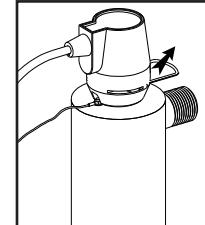
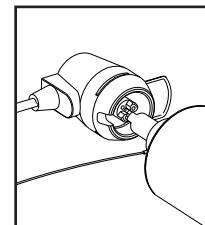
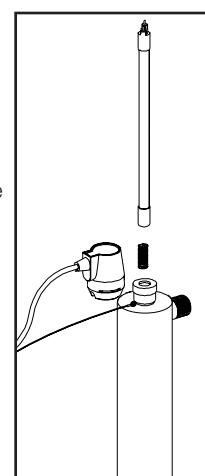
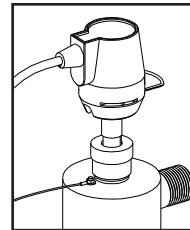

FIGURE 2A
FIGURE 2B
FIGURE 2C
FIGURE 2D
-  2. Disconnect main power source and allow the unit to power down for 30 sec. Remove the lamp connector by sliding the metal retaining ring (Figure 2A) away from the body of the connector. Remove connector and lamp from the reactor chamber. Separate the lamp from the connector (Figure 2B). Do not twist the lamp from the connector, simply slide the two apart. Avoid touching the lamp on the glass portion. Handling the lamp at the ceramic ends is acceptable, however if you must touch the lamp glass, please use gloves or a soft cloth. Fully remove the lamp from the reactor chamber being careful not to angle the lamp as it is removed from the chamber. If the lamp is removed on an angle, pressure will be applied on the inside of the quartz sleeve, causing the sleeve to fracture.
-  3. To install a new lamp, first remove the lamp from its protective packaging, again being careful not to touch the lamp glass itself. Carefully insert the lamp into the reactor vessel (actually inside the quartz sleeve) (Figure 2C). Insert the lamp fully into the chamber leaving about two inches of the lamp protruding from the chamber. Next, attach the connector to the UV lamp (Figure 2B). The connector is "keyed" and will only allow correct installation in one position. Ensure the connector is fully seated in the UV lamp (Figure 2D).
over the retaining nut, slide the metal ring back in to lock the connector in place (Figure 2E). As this connector is keyed to the reactor chamber, make sure the notch on the connector (Figure 2D) is located over the ground lug located on the reactor chamber.